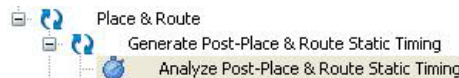

Figure 6-3: Analyze Post-Place &amp; Route Static Timing
- Open Timing Analyzer for the post-place and route design, as shown in Figure 6-3.